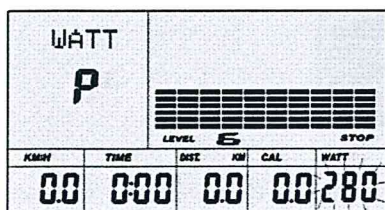

fig 30
F. The watt display will flash, and then press(or rotate) UP, DOWN button to set up the watt to do the exercise. Press ENTER to confirm the value. (See fig 30)